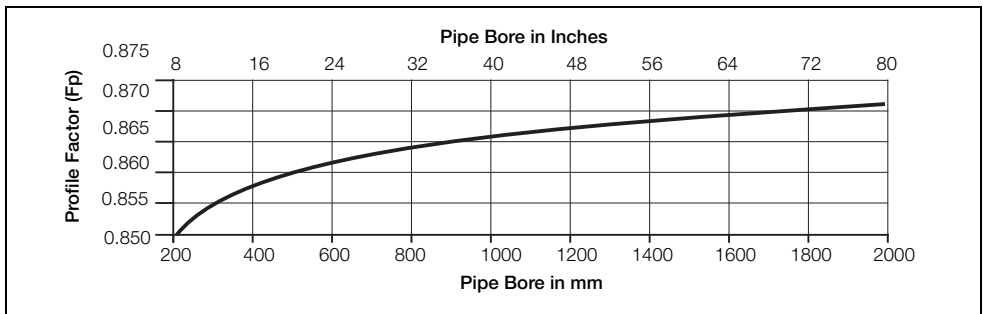

Fig. 5.1 Profile Factor vs Velocity for Pipe Sizes 200 to 2000 mm (8 in to 80 in.)
2. Determine the profile factor F_p from Fig.5.1.
$F_p = 0.861$ (derived from Fig. 5.1)